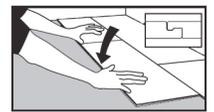
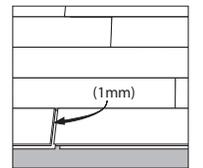

Figure 3
Figure 4
3. Lower the plank (Figure 3) and slide the plank to the left to within approximately 1 mm of the end joint of the adjoining plank. (Figure 4)